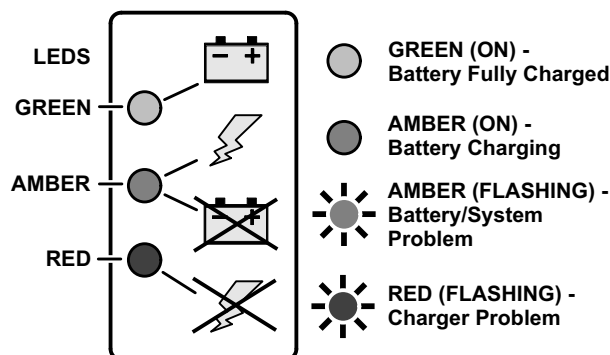

Figure 3-5. Charger Decal LED Indicators
3. When powered up the charger will go through a short LED indicator self-test. The battery charger LED indicators on the charger (Figure 3-5.), will flash in sequence for two seconds. These LED indicators can be viewed through the opening on the rear panel where the charger AC cord is accessed.